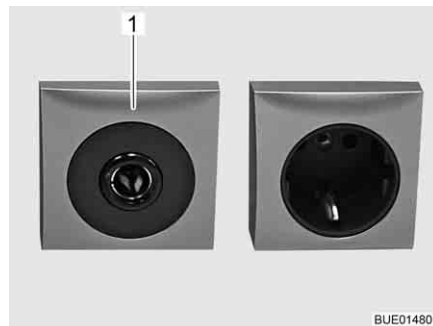

Fig. 129 12 V/10 A socket
- ▷ Only connect devices with a maximum of 10 A to the sockets (Fig. 129,1) of the 12 V power supply.